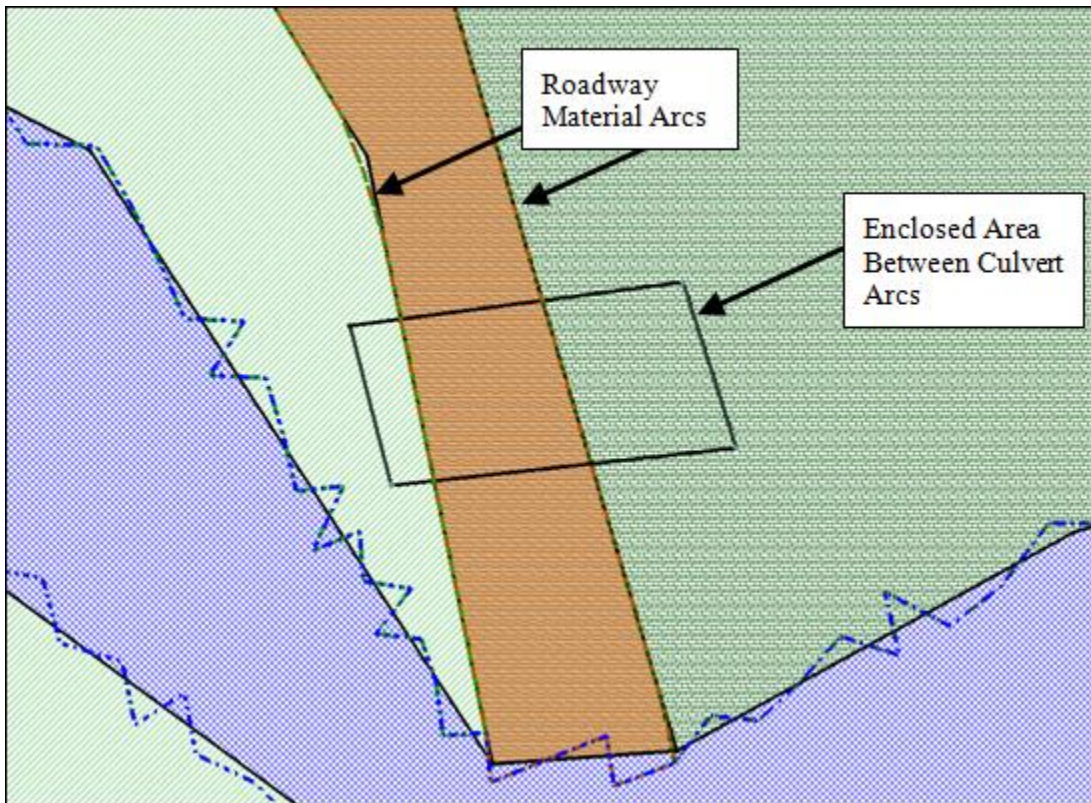

Figure 6 Enclosed Area Between Culvert Arcs and Roadway Material Arcs
3. Using the **Create Feature Arc** tool, draw one arc enclosing the area between the two culvert arcs. If drawn correctly, the arc should close on itself and it should appear similar to Figure 6.